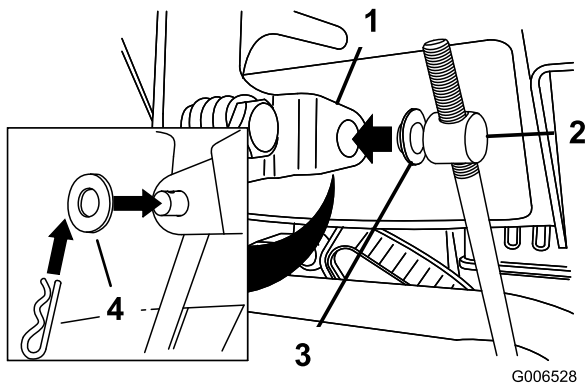

Figure 12
3. Remove the hairpin cotter and the outer washer from the trunnion on the upper end of the speed control rod (Figure 12).
Note: To make installation easier, leave the flat washer on the trunnion (Figure 12).
6. Lift up on the speed control rod and insert the trunnion into the hole in the speed selector lever (Figure 12).
- B. Disconnect the trunnion from the speed selector lever (Figure 12).